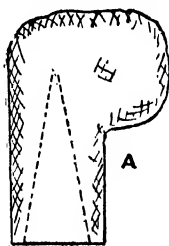

Fig. 603. Joining
**Joining Handle to Stick.**—To join a wooden handle to a stick, one way is first to rough out the handle, as at A (Fig. 603); bore a hole with a small bit, and enlarge and taper this with a hollow taper bit or wood reamer, as shown by the dotted line. Taper the end of the stick, B, to fit the hole, and when a good joint is made, glue